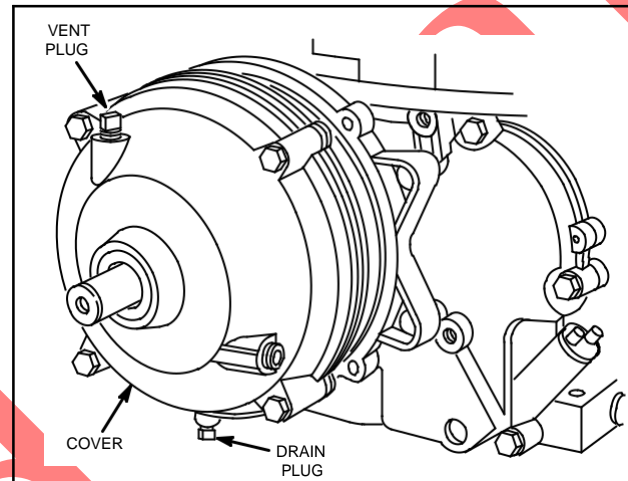

Fig. 137 - DRAINING GEAR REDUCTION AND REMOVING COVER
3. After gear case is drained, loosen and remove four cap screws and cover, Fig. 137.